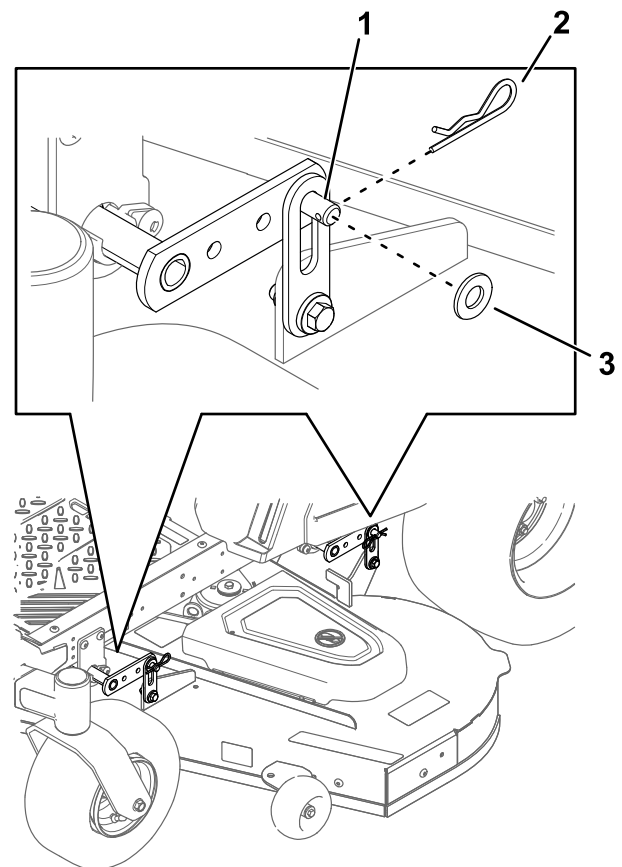

Figure 63
- At all 4 corners of the deck, remove the hairpin cotter and washer from the deck pin (Figure 63).
6. Lift the rear of the mower deck and attach the rear deck hangers to the rear deck pins (Figure 63).
7. Attach the front deck hangers to the front deck pins (Figure 63).
8. Secure the deck pins with the hairpin cotters and washers removed previously (Figure 63).